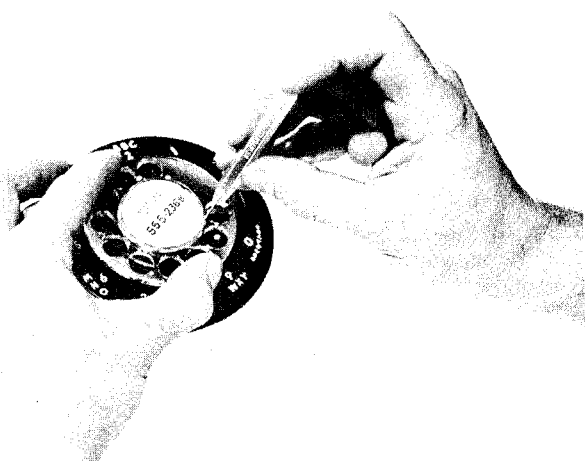

Fig. 17—Removing Plastic Fingerwheel
- (1) Rotate fingerwheel in clockwise direction as far as possible.
(2) Insert KS-16750, List 2 releaser into small hole located in edge of raised center of fingerwheel, as shown in Fig. 17 and push down to disengage the fingerwheel clamp spring. Continue to rotate the fingerwheel in a clockwise direction.
(3) When clamp spring releases, remove fingerwheel and dial will return to normal.
- (b) To remove number plate on a dial with a plastic fingerwheel, follow the sequence in Fig. 17, 19, 20, and 21.